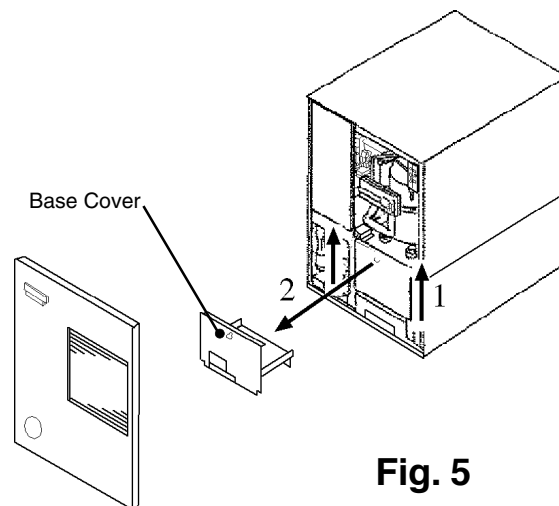

Fig. 5
6) Remove the Front Panel and the Base Cover and turn the control switch to "OFF". See Fig. 5.